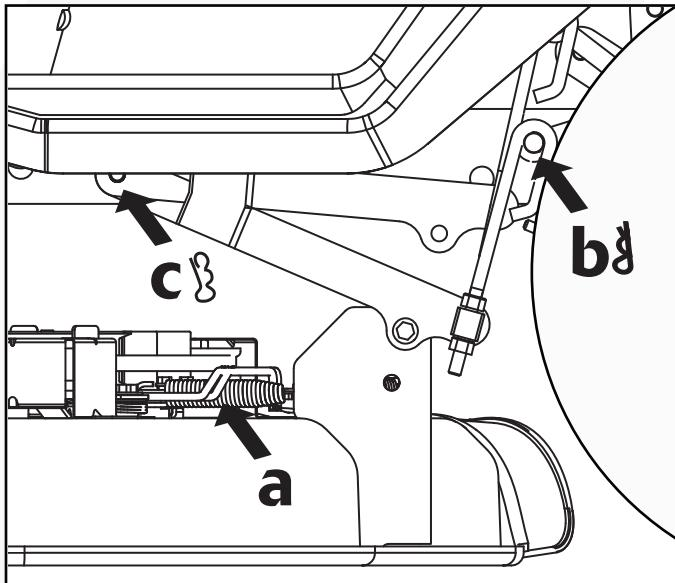
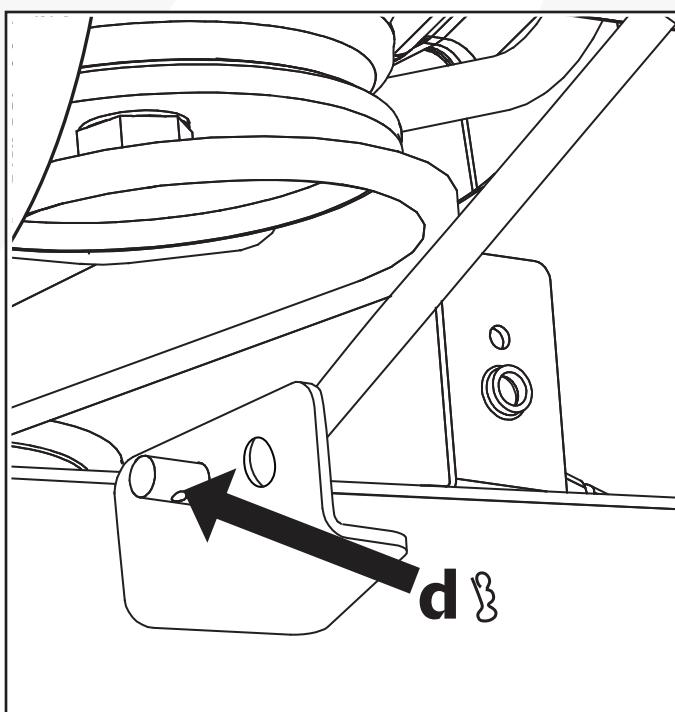

Fig. 28
Fig. 29
4. Disconnect the cable spring (a, Fig. 28) that connects the deck to the tractor.
5. Remove the 5 hitch pins, 2 on the left (b and c, Fig. 28), 2 on the right (the same position as shown on left), and 1 on the front (d, Fig. 29) that secure the deck in place.